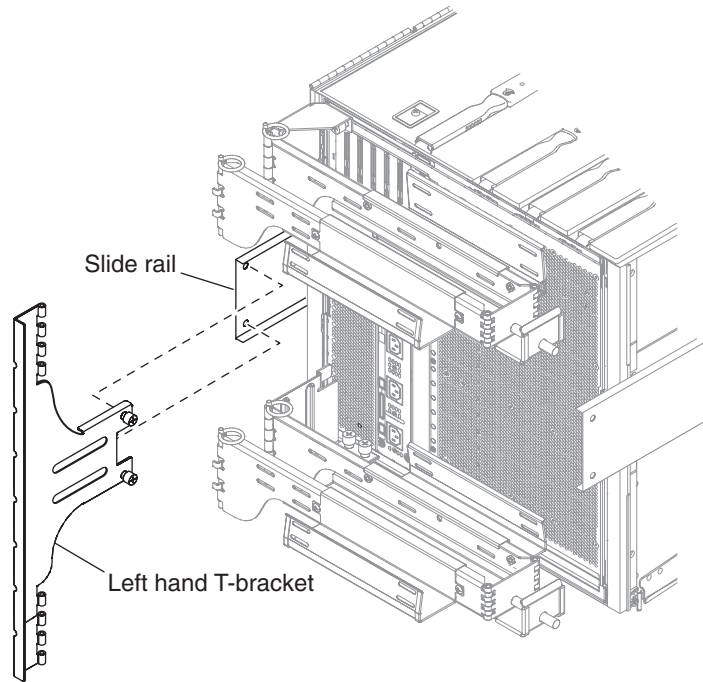

FIGURE 1-21 Attaching Left Hand T-Bracket
7. Secure the left hand T-bracket to the left hand slide rail using two captive screws, FIGURE 1-21.